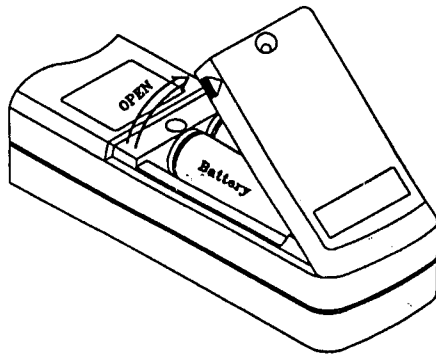

Fig. 3: Battery Replacement
5. Remove battery compartment as shown in Fig. 3.